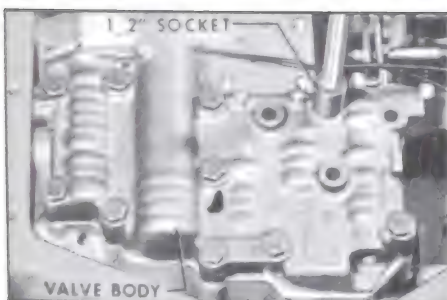

Figure 5-117
8. Remove eleven (11) valve body to case bolts only using a 1/2" socket. Do not remove valve body. See Figure 5-117.